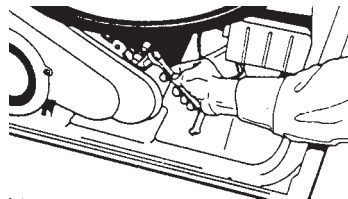

Fig. 4-25
1. Using a 5/16" socket, remove the two screws attaching the operating thermostat and the bias heater to the blower housing. (Fig. 4-25) Remove the operating thermostat and the bias heater.